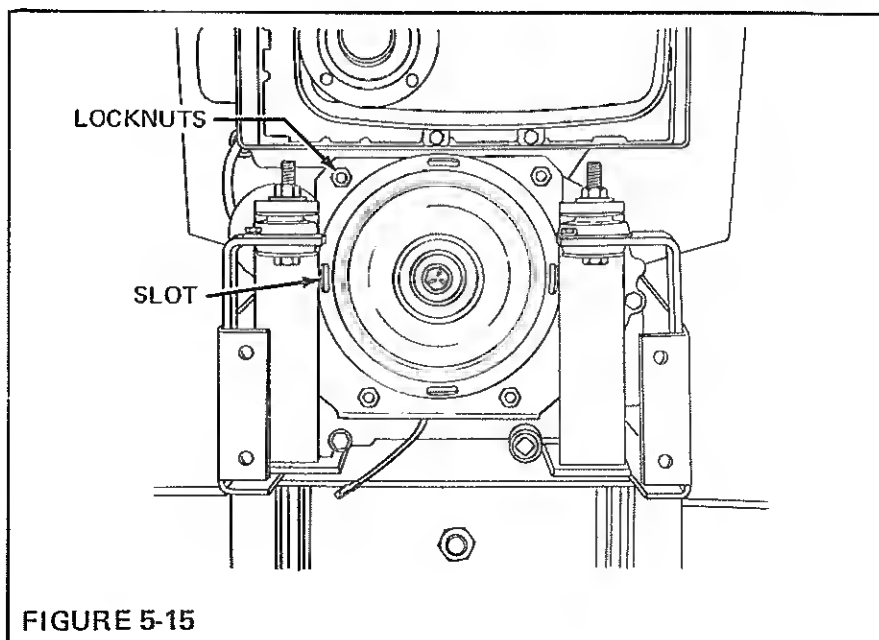

FIGURE 5-15
Position a .015" (0.38mm) thick shim in each of the four slots, Figure 5-15, in brake flange and turn on clutch/brake. Tighten the (4) locknuts until they just contact brake flange. (CAUTION: DO not over torque locknuts as damage to brake flange may result).